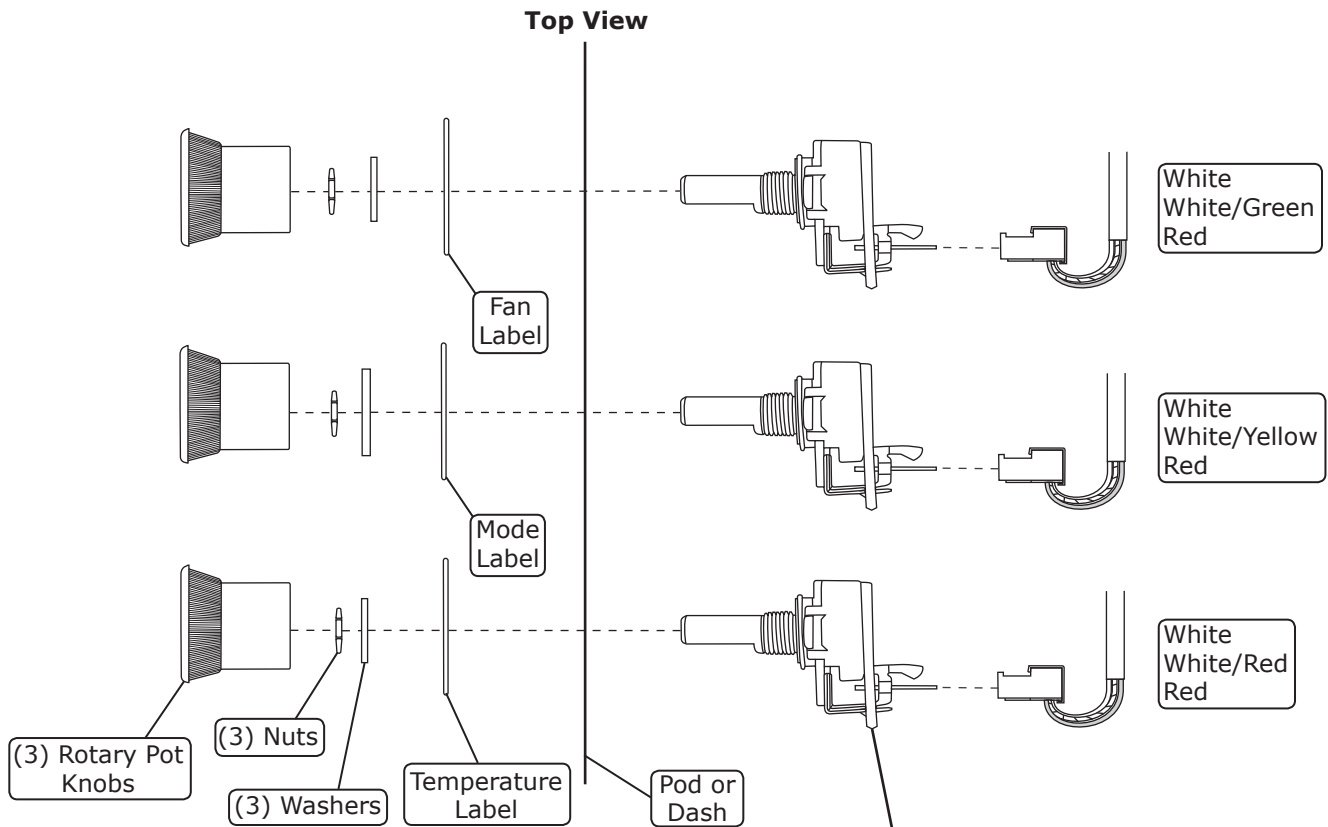

Figure 3
1. Install (3) rotary pot assemblies into the pod or dash as shown in Figure 3, below.